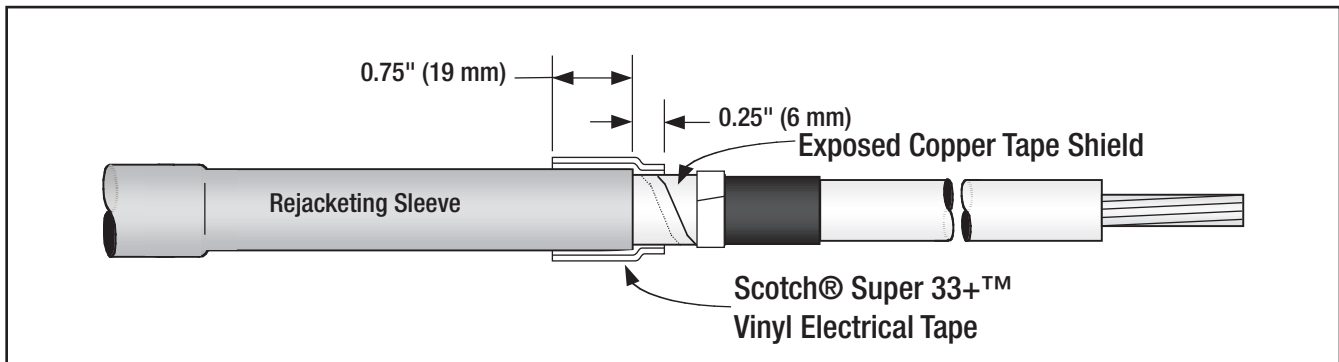

Figure 12
- 4.3 Secure rejacketing sleeve with two half-lapped layers of Scotch® Super 33+™ Vinyl Electrical Tape (*Figure 12*). Start taping 0.75" (19 mm) over rejacketing sleeve, extend 0.25" (6 mm) over cable metallic shield and return to starting point.